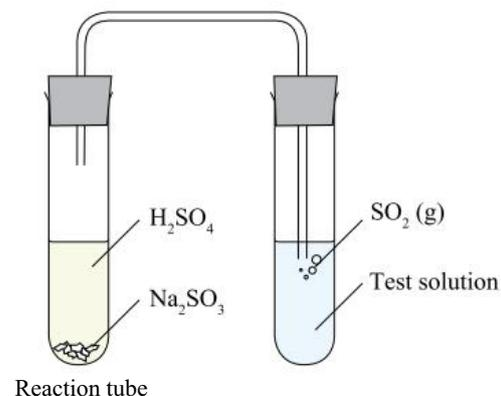

Figure 23.1
5. Set up the gas generating equipment as shown in Figure 23.1. Light the Bunsen burner. To the reaction tube containing the 2 g of Na₂SO₃, carefully add 2 mol L⁻¹ H₂SO₄ to a depth of about 2 cm. Replace the stopper assembly. Some SO₂ will be evolved at this stage. Place a piece of moist red and blue litmus at the exposed end of the gas delivery tube. Record your observations. Move quickly to procedure 6.